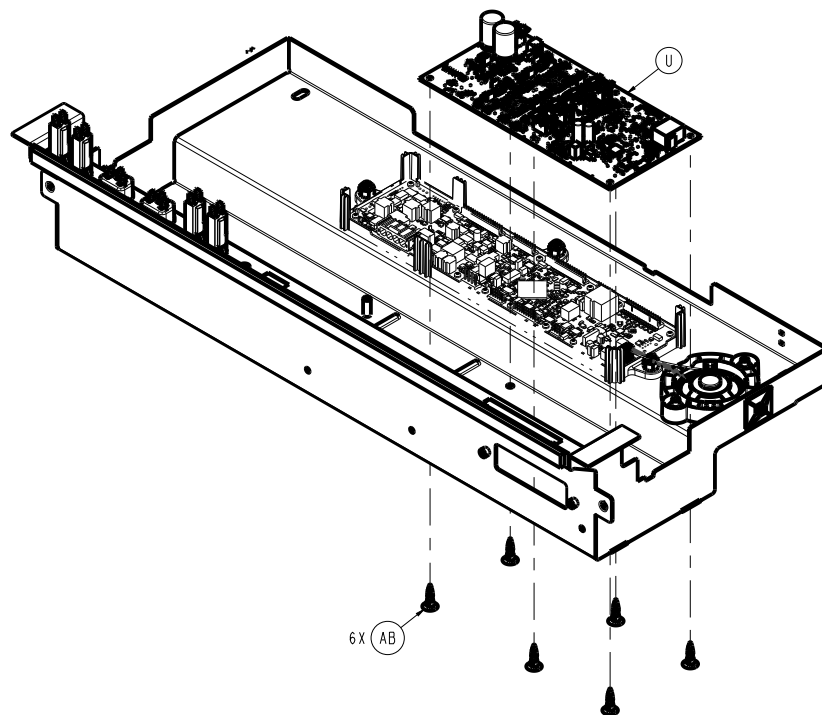

Figure 33 – Replacing the motion controller board
8. Note all cable locations, then unplug all cables from the motion controller board (U) (Figure 33).
9. Using needle nose pliers, unclip the six locking standoffs (AB) that secure the motion controller board (U) to the electronics box assembly (Figure 33).